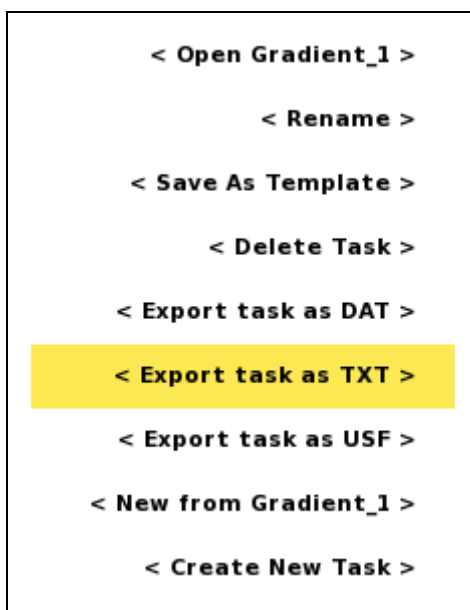

Figure 72. Task options menu
- Highlight <Export task as TXT> (Figure 72)